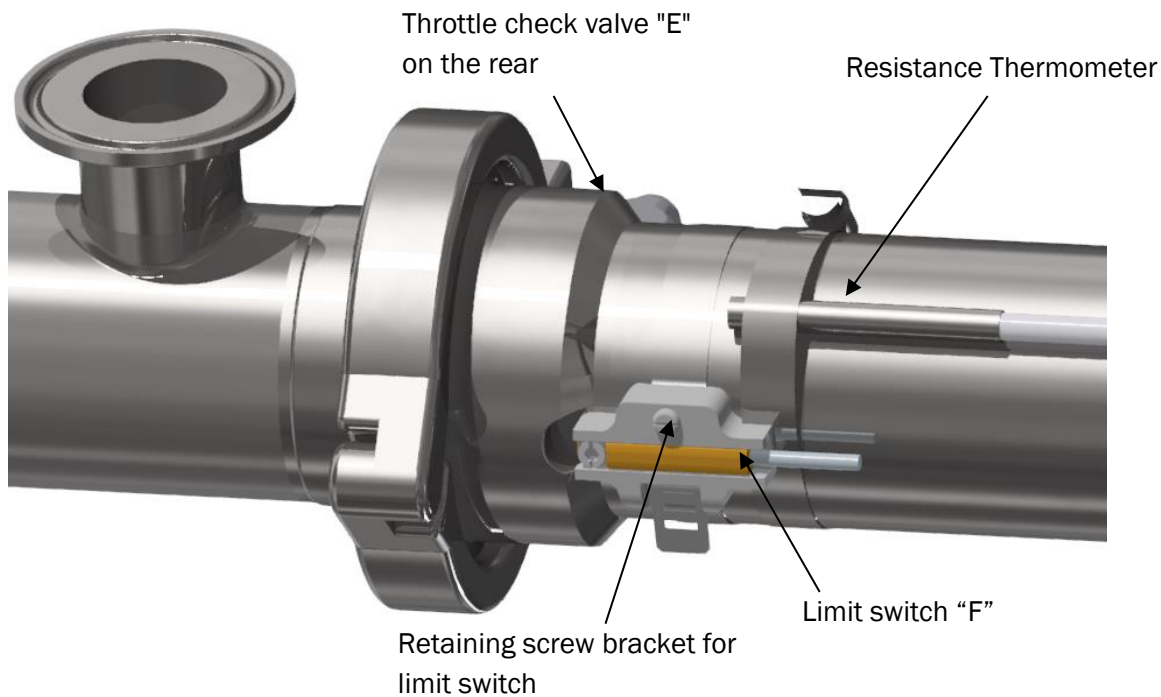

Figure 5.2-11: Resistance thermometer position
Mount the supplied resistance thermometer in the position in the indicated position (see Figure 5.2-11: Resistance thermometer position).
- If the cleaning medium and/or container temperatures exceed 70 °C, the supplied resistance thermometer must be installed on the pneumatic cylinder, see Figure 5.2-11: Resistance thermometer position.